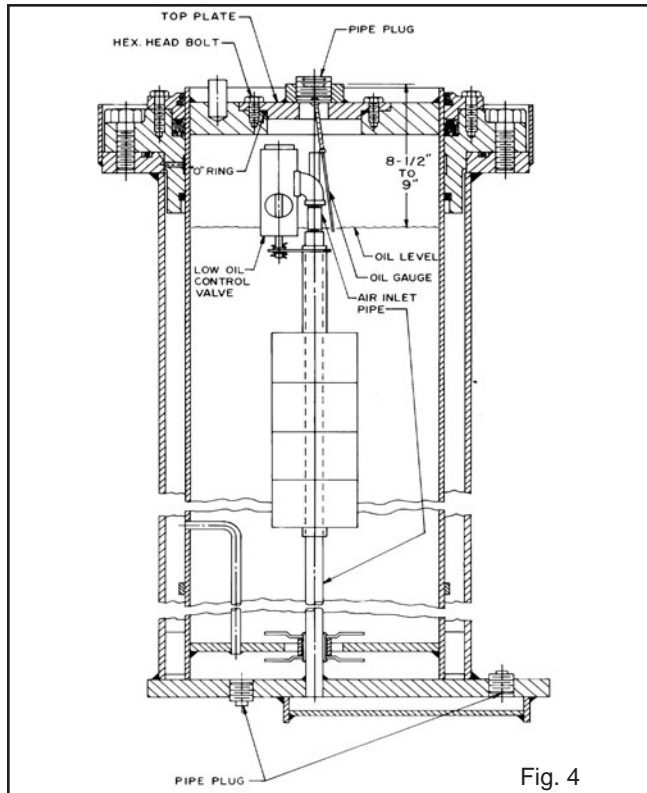

Fig. 4
12. Fill system with oil. Remove the shipping strap and the wooden shipping plug located at the upper end of the plunger and cylinder assembly by removing the two (2) 7/16"-14 x 1-1/2" lg. bolts and discard the shipping strap and wooden plug. Put the same (2) bolts back into the same holes to hold the wiper retaining ring. **IMPORTANT:** Six bolts are required to properly hold the wiper retaining ring. Install the pipe plug as shown in Fig. 4. Approximately 42 gals. of oil are required. Use only oil which is recommended by the petroleum manufacture for hydraulic lifts. Viscosity rating should be approximately 100-125 SSU at 100° F. Most SAE 10 oils (new) are acceptable. Avoid oils which foam under air pressure. A rust inhibitive type oil is recommended.
Remove oil fill plug and check oil level. Add oil if necessary. K. (See Fig. 4). CAUTION - Always place air control valve in exhaust position before removing pipe plug. Repeat bleed and refill procedure until no air escapes from air vent.